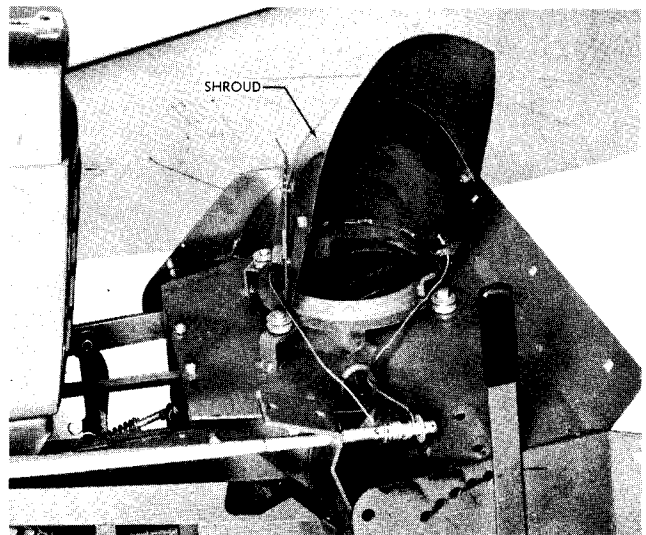

FIGURE 6
6. Remove the front shroud rollers and install the shroud (figure 6).
1. Face the shroud to the right (figure 6).